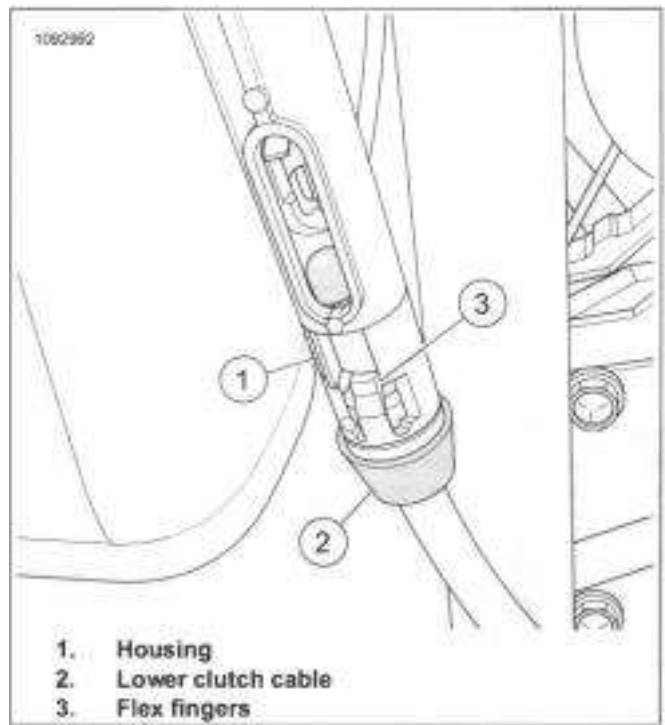

Figure 3-100. Lower Clutch Cable
7. See Figure 3-100. Pry flex fingers (3) open and slide lower clutch cable (2) from housing (1).
1. See Figure 3-100. Install lower clutch cable (2) into housing (1).